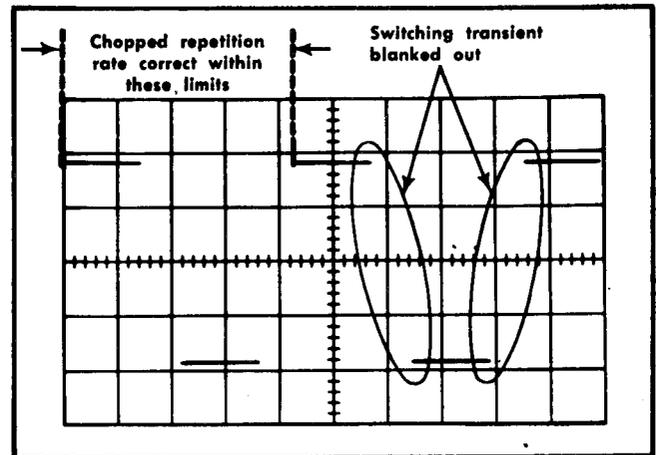

Fig. 5-27. Typical CRT display when checking chopped repetition rate and blanking.
- CHECK-Each cycle for duration of 3.4 to 5 divisions (500 kilohertz,  $\pm 20\%$ ; see Fig. 5-27).
- CHECK-CRT display for complete blanking of switching transients between chopped segments (see Fig. 5-27).